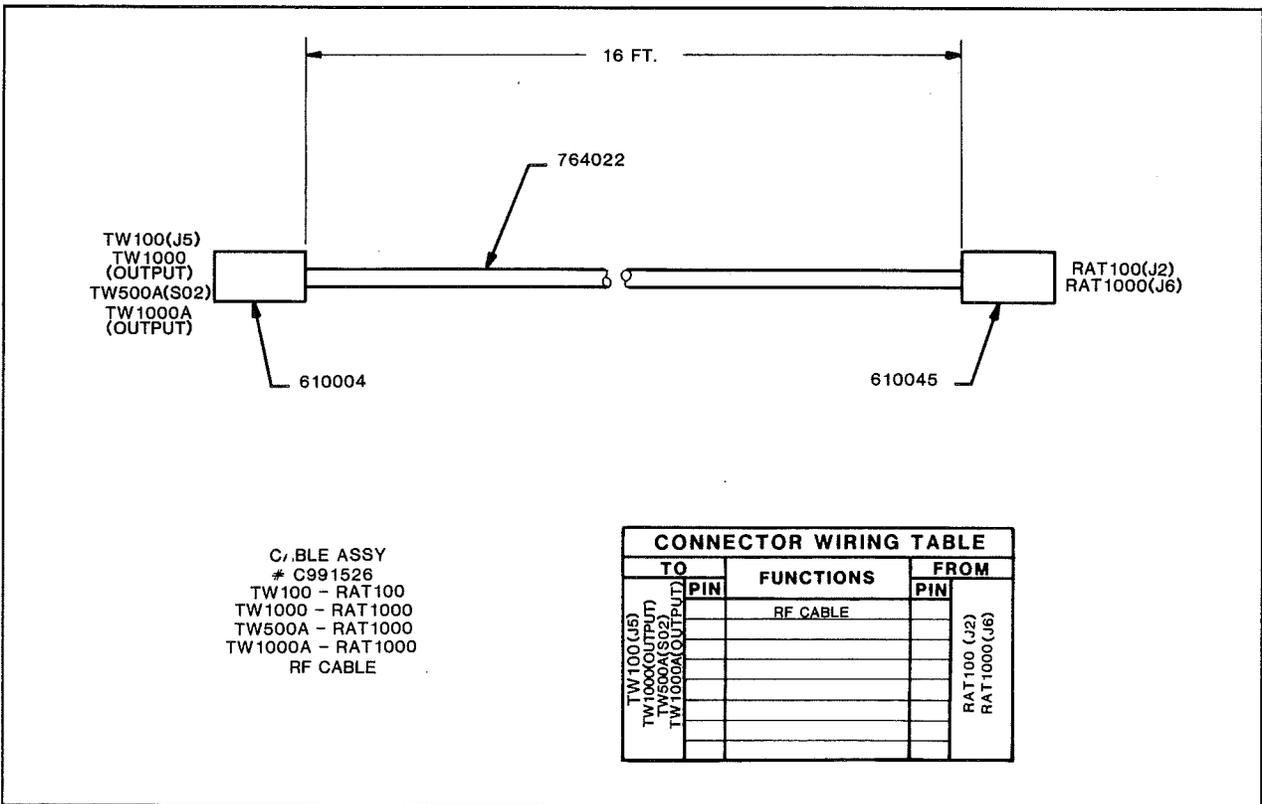

FIGURE 3-12. RF Cable (C991526).
5. C991526 -- See Figure 3-12.